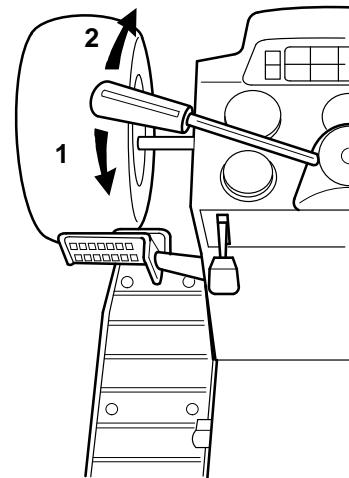

Figure 22
The attachment power lift (Fig. 22) is used to raise and lower attachments.
2. Pull the lift lever in the "UP" direction to raise the attachment lift (Fig. 22). This will lift and hold the attachment in the up, or raised position.
2. Push the lift lever in the "DOWN" direction to lower the attachment lift (Fig. 22). This will lower the attachment lift.